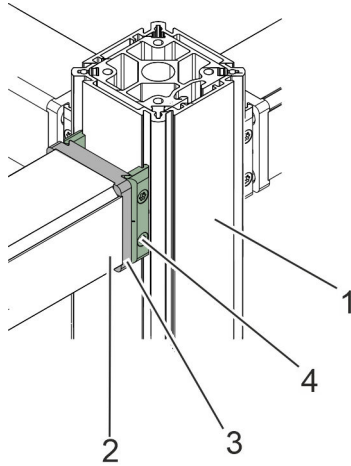

Fig. 16: Installing traverses
1. ➔ parallel fastener Insert the parallel fastener (Fig. 16/4) into the fastening groove of the telescopic bars (Fig. 16/1) and place at the desired height.
2. ➔ Insert the front adapter (Fig. 16/3) of the traverses (Fig. 16/2) between the connector jaws of the parallel fasteners (Fig. 16/4).
3. ➔ Slightly tighten the screws of the parallel fasteners (Fig. 16/4).